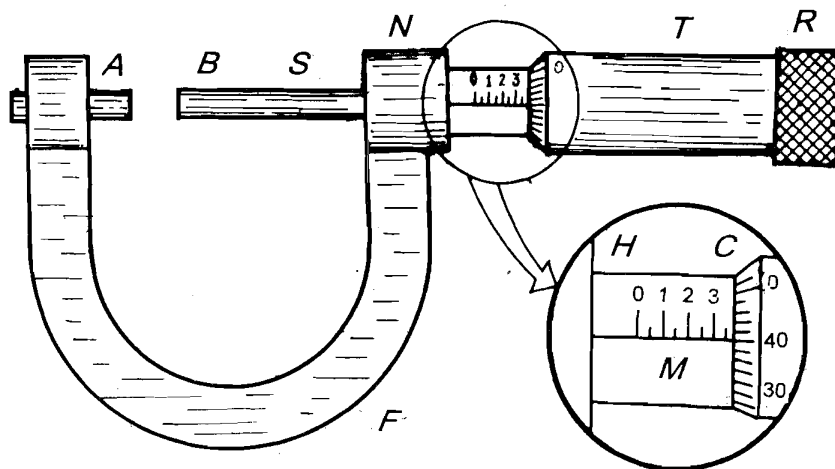

Fig.3.4: A screw gauge
A screw gauge is shown in Fig.3.4. It consists of a spindle S , a U-shaped frame F , a hollow shaft H , and a cylindrical collar T , called the timble. One end of the spindle is an accurate screw which moves hidden inside a nut and the shaft (H) is attached to the end N of the U-shaped frame. The free end B of the spindle moves forward and backward when the screw moves inside the nut. The other end (A) of the frame is a butt end and is also called the anvil.
On one complete anticlockwise rotation, the zero mark on the circular scale will once again coincide with the main scale line, and the spindle end will be separated from the butt end. You can read this separation on the main scale. This is equal to the pitch of the screw. For the inset shown in Fig.3.4, the pitch
For the inset sketch of Fig.3.4, you can calculate the total reading as follows: